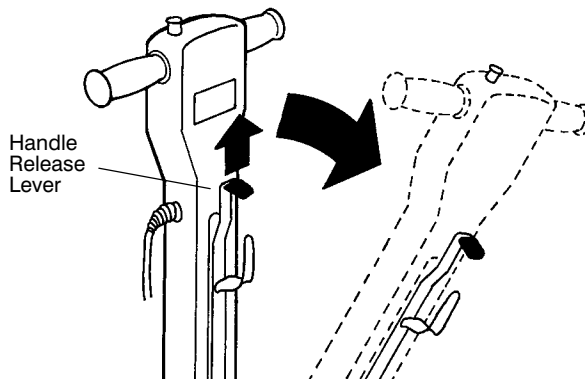

FIG. 4
3. Lower the handle to a comfortable operating height by pulling the handle height adjustment lever upward. Release lever to engage handle (Figure 4).